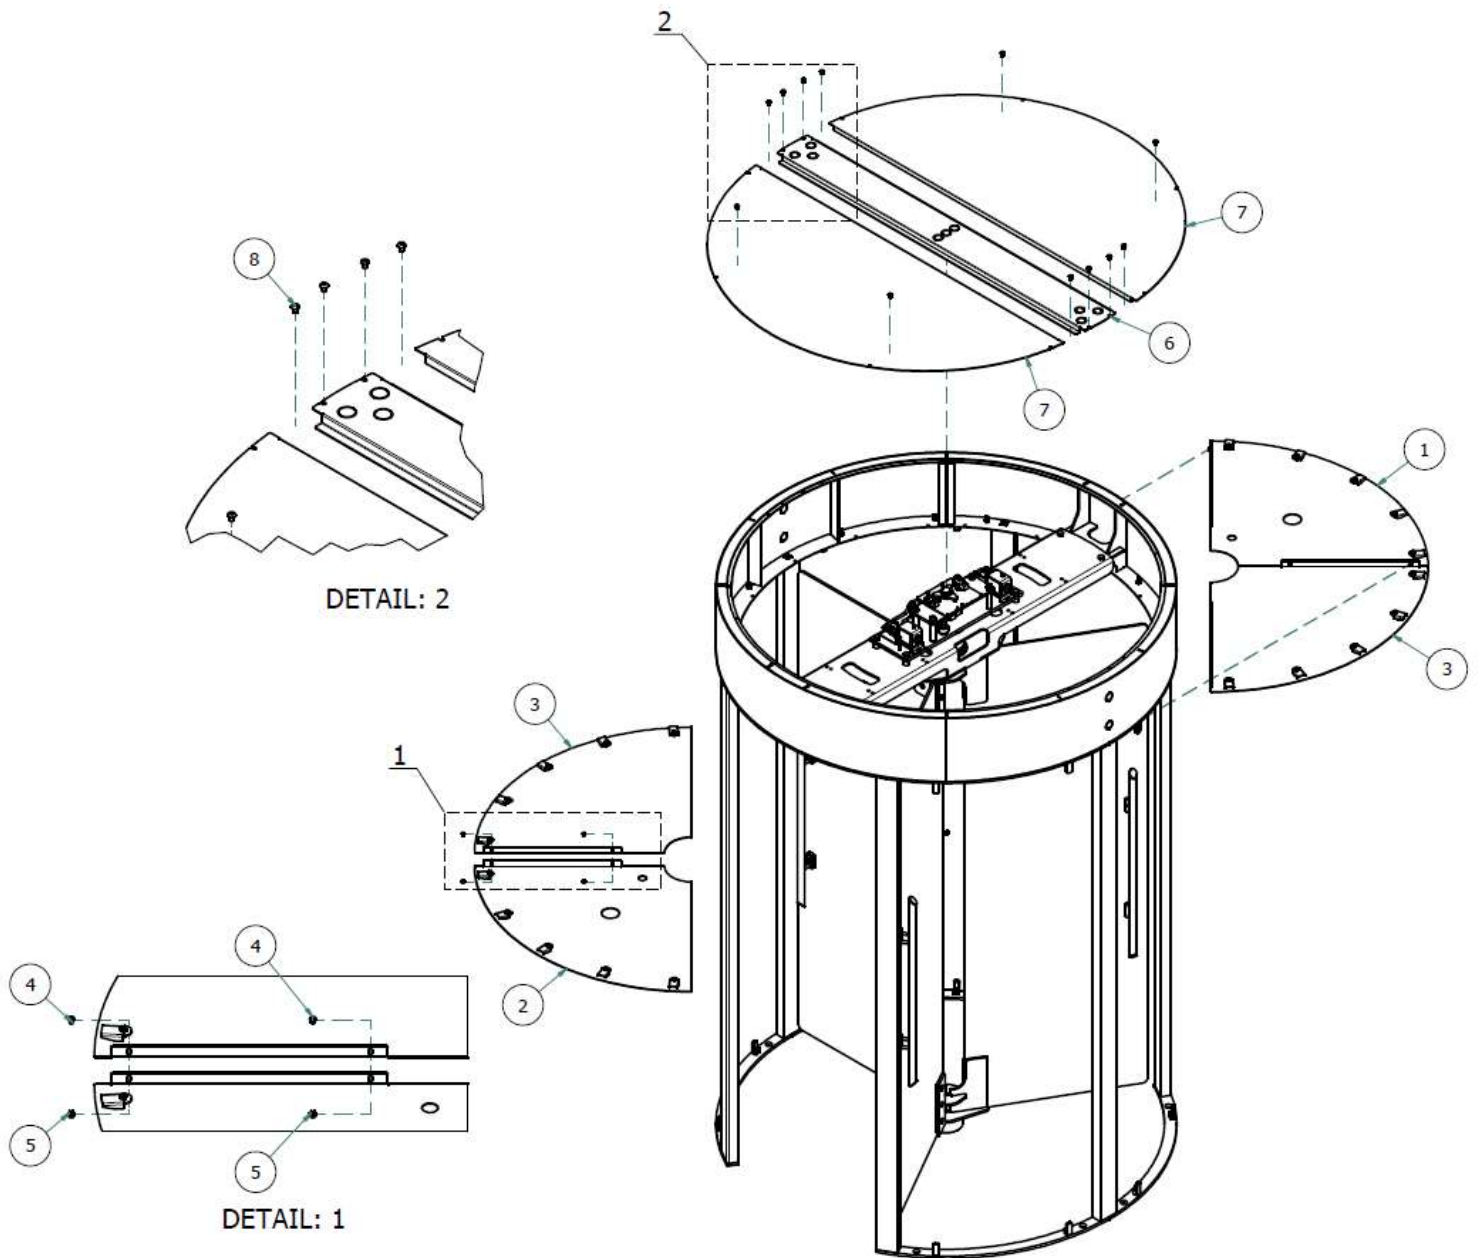

**Figure 18: Full rotor assembly**
5.26. The table above and image Figure 18 refers to the full assembly required for the rotor.